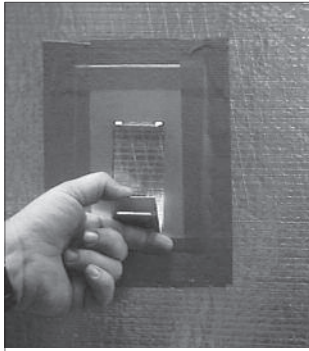

Figure 6
- Bend tabs outward (Figure 6).